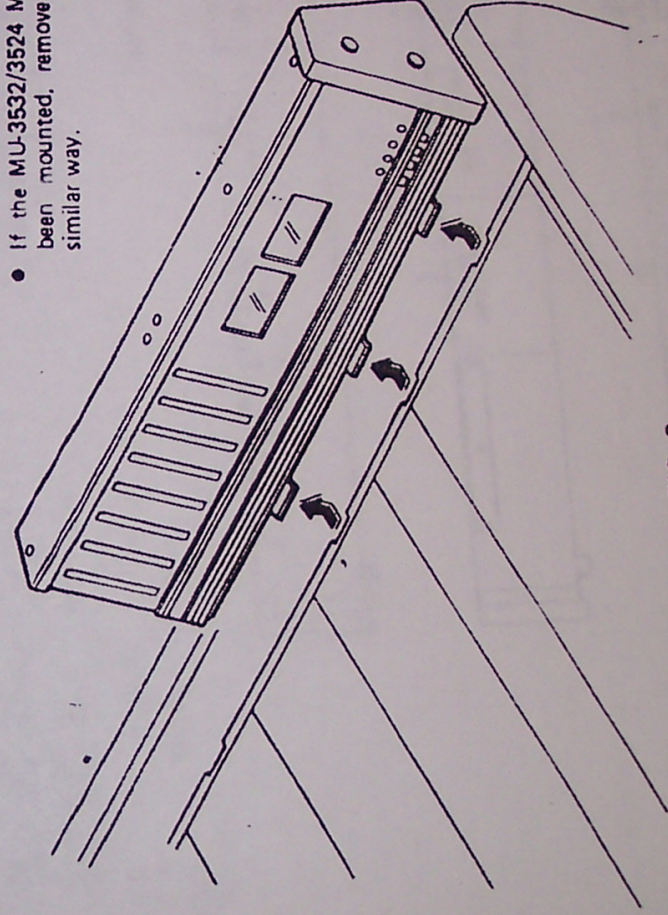

FIG. 3
- 1-5. Refer to Figure 3 and slide the meter unit backward then lift it up.